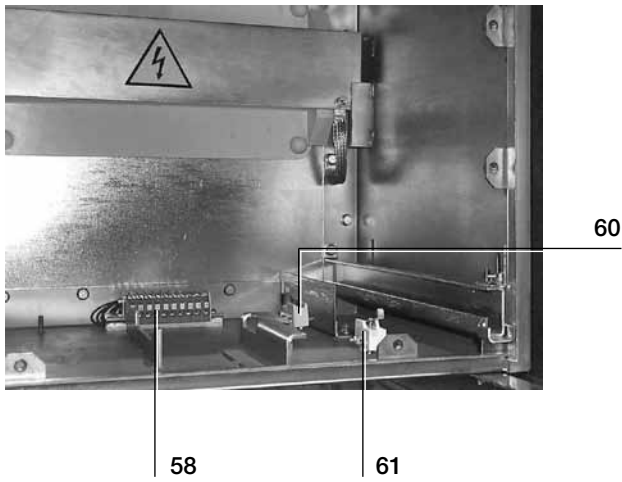

Fig.11c
The voltage transformers insulated in resin for supplying power to instruments and protection devices, have the performances and precision classes normally provided by instrument transformer manufacturers. VT auxiliary circuits are connected by means of sliding contacts (58) (fig. 11c).
- sliding contacts of the VT auxiliary circuits (58) (fig. 11c);
- contacts for signalling VT truck inserted (60) (fig. 11c);
- contacts for signalling VT truck isolated (61) (fig. 11c).